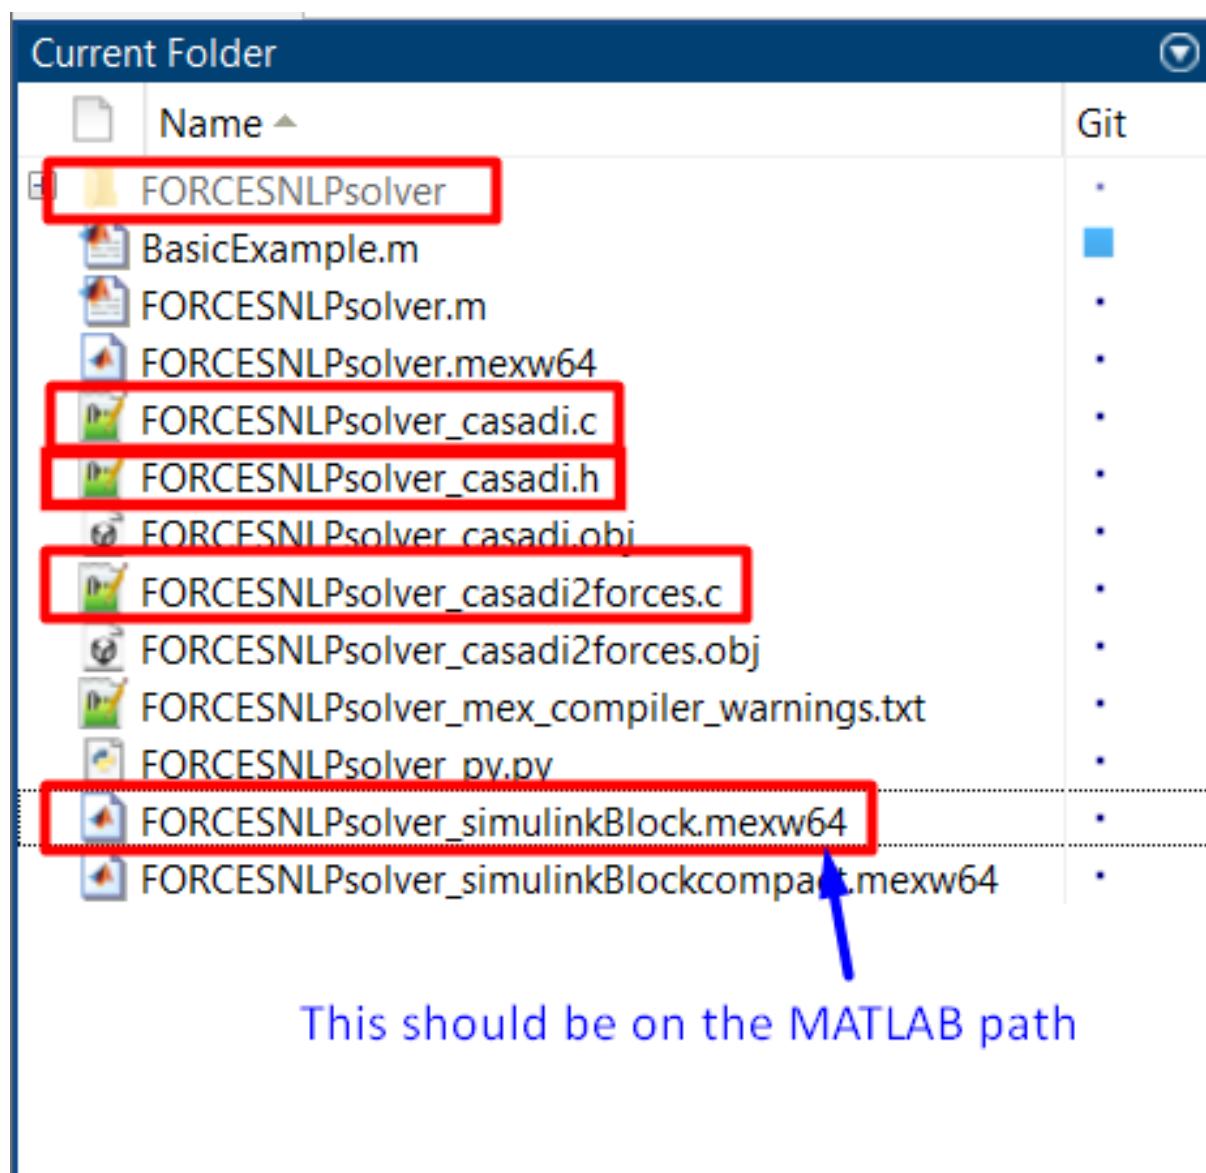

Figure 13.90: Add the folder containing the .mexw64 solver file to the Matlab path.
4. (Figure 13.90) Make sure the FORCESNLPsolver_simulinkBlock.mexw64 file (created during code generation) is on the Matlab path.